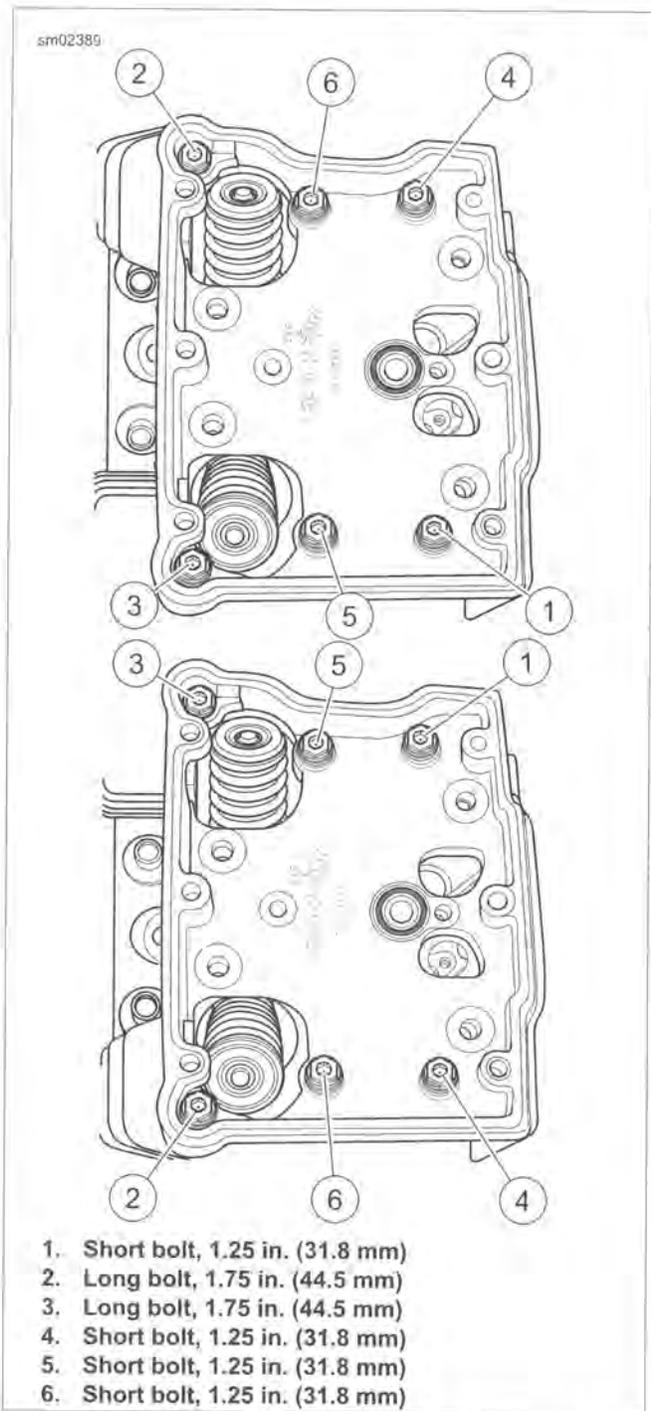

Figure 3-78. Rocker Housing Torque Sequence and Bolt Size
- a. With the indent (1) facing forward, place the rocker housing into position aligning the holes in the housing with those in the gasket.
- b. See Figure 3-78. Apply a drop of LOCTITE 243 MEDIUM STRENGTH THREADLOCKER AND SEALANT (blue) to threads of six rocker housing bolts.